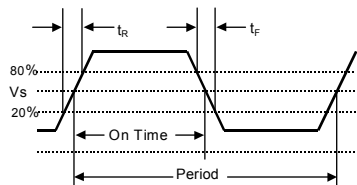

Figure 2. Output Waveform
2. Figure 2 defines the waveform parameters. Figure 3 illustrates the standard test conditions under which these parameters are tested and specified
3. Duty Cycle is defined as (on time/period) with V_s = V_{dd}/2 per Figure 2. Duty Cycle is measured with a 15pf load per Figure 3.